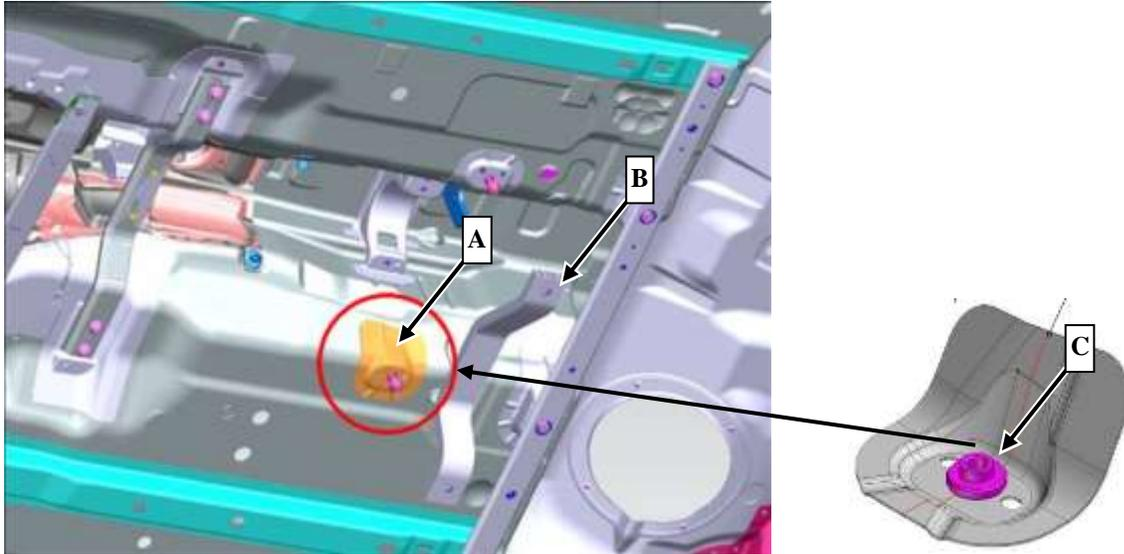

Figure 1
1. Release underfloor paneling in area of crash strut (B, Figure 1).
2. Unscrew crash strut (B, Figure 1) and move until mounting support is visible.
3. Check **right** mounting support (A, Figure 1) for cracks in area (C, Figure 1) from outside.